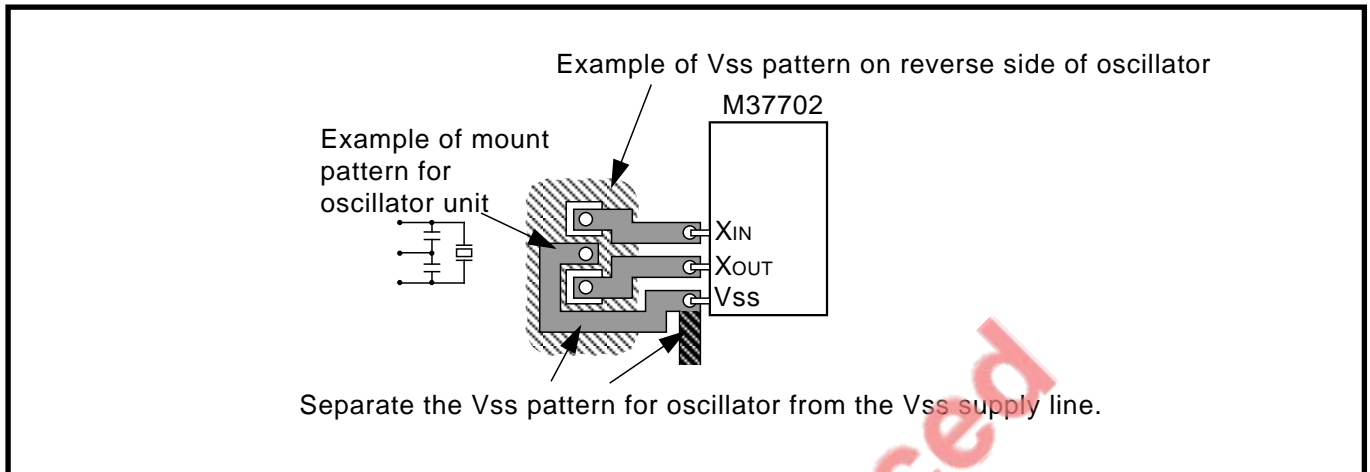

Fig. 19 Vss pattern on reverse side of oscillator
- Separate the Vss pattern for oscillation purpose from the other Vss patterns. (Refer to Figure 19.)